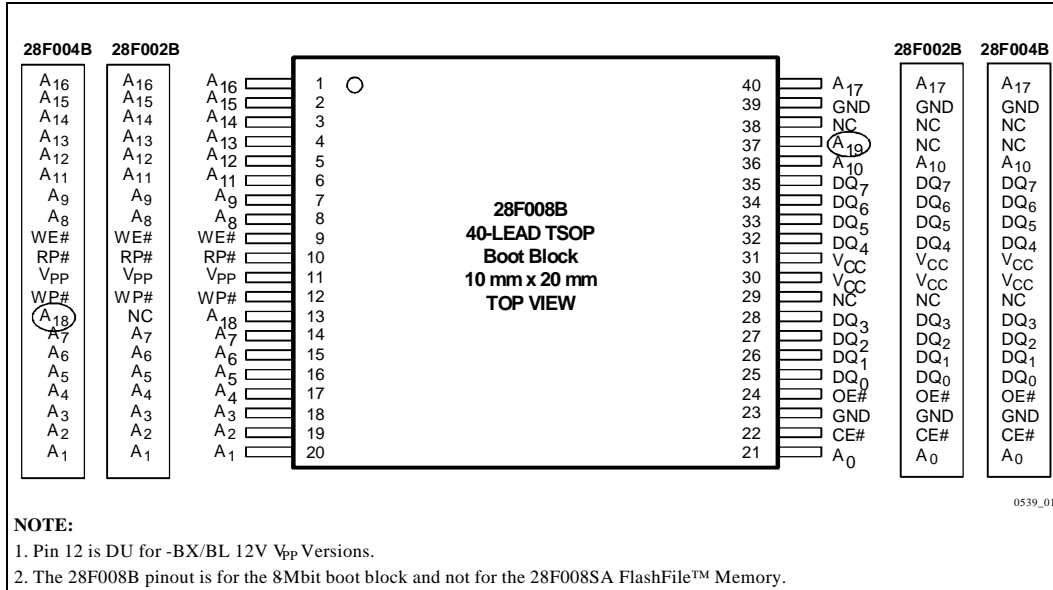
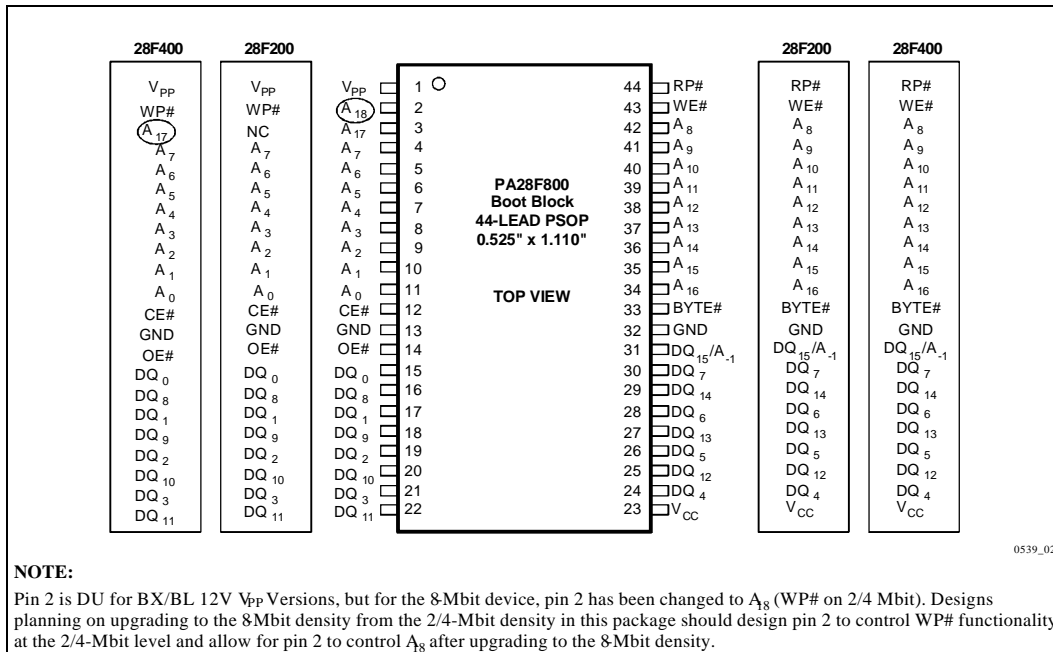
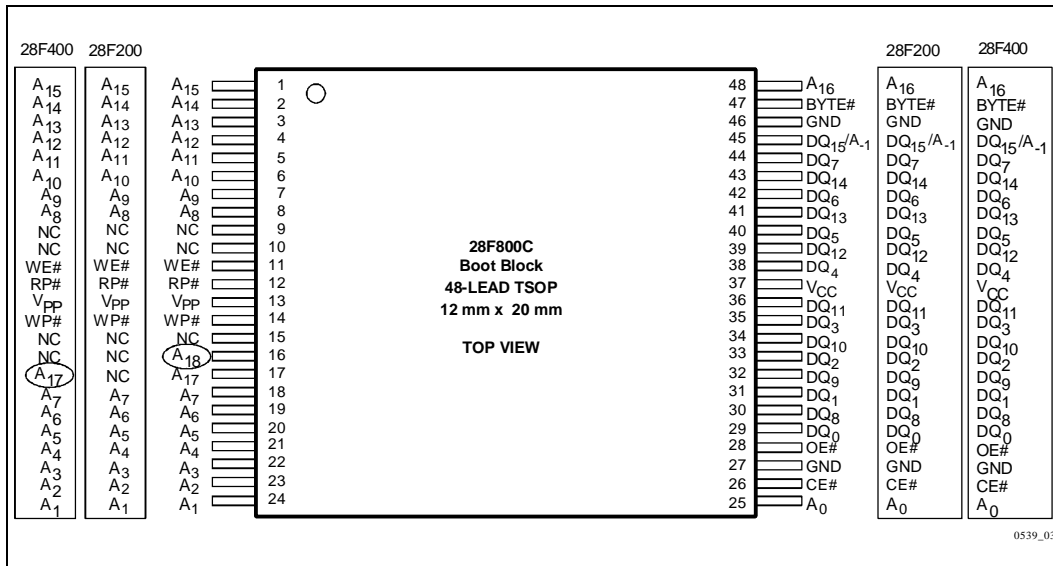

Figure 1. The 40-Lead TSOP Offers the Smallest Form Factor for Space-Constrained Applications
Figure 2. The 44-Lead PSOP Offers a Convenient Upgrade from JEDEC ROM Standards
Figure 3. The 48-Lead TSOP Offers the Smallest Form Factor for x16 Operation
- WP# pin has replaced DU (Don’t Use) pin #12 in the 40-lead TSOP package. In the 44-lead PSOP, DU pin #2 is replaced with A_{18} (see Figure 1 and Section 3.4 for details). Connect the WP# pin to control signal or to V_{CC} or GND (in this case, a logic-level signal can be placed on DU pin #12 for 40-lead TSOP). See Tables 2 and 9 to see how the WP# pin works.
To upgrade from lower density SmartVoltage boot block products, the similar pinouts in the 40-lead and 48-lead TSOP packages provide easy upgrades by adding extra address lines (see Figures 1 and 3). In the 44-lead TSOP, the WP# pin on the 2-Mbit and 4-Mbit BV parts becomes A_{18} , removing the capability to unlock the boot block with a logic-level signal in this package **only**. The boot block can still be unlocked with 12V on RP# (see Figure 2 and Section 3.4 for details).
The 28F800 products are available in the 44-lead PSOP (Plastic Small Outline) package (a ROM/EPROM-compatible pinout) and the 48-lead TSOP (Thin Small Outline, 1.2 mm thick) package as shown in Figures 2, and 3, respectively. The 28F800 is not available in 56-lead TSOP. The 28F008B products are available in the 40-lead TSOP package as shown in Figure 1. Refer to the DC Characteristics Table, Section 5.2 (commercial temperature) and Section 6.2 (extended temperature), for complete current and voltage specifications. Refer to the AC Characteristics Table, Section 5.3 (commercial temperature) and Section 6.3 (extended temperature), for read, write and erase performance specifications.
The 28F008B 40-lead TSOP pinout for space-constrained designs is shown in Figure 1. For designs that require x16 operation but have space concerns, refer to the 48-lead pinout in Figure 3. The 28F800 44-lead PSOP pinout follows the industry-standard ROM/EPROM pinout, as shown in Figure 2.